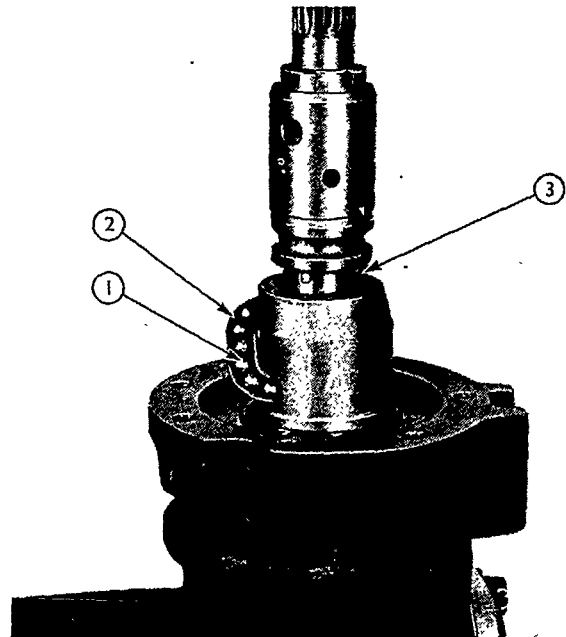

Figure 15
6. Rotate the rocker shaft until the piston is at the top of its stroke and position the worm gear and one half of the transfer tube in the nut and piston assembly as shown in Figure 15. Feed in the 28 balls using clean grease, and install the other transfer tube half. Bolt the transfer tube retaining bracket to the nut assembly and bend over the retaining bracket tabs to lock the bolts.